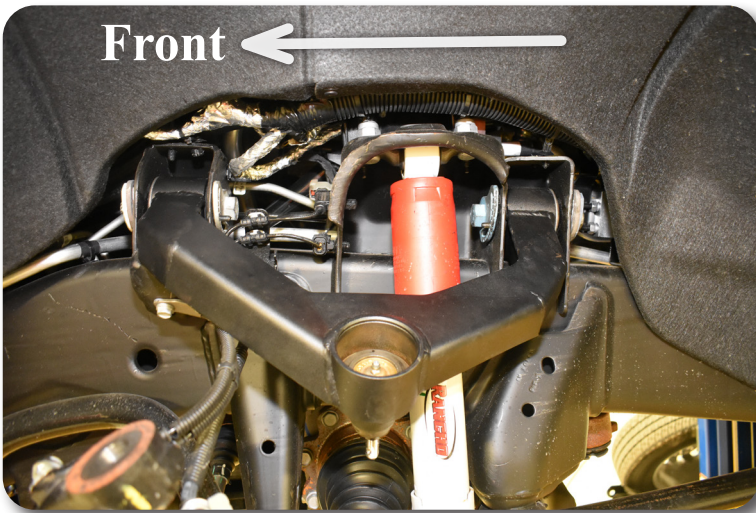

Figure 5 Driver Side Shown
12. Install new upper control arm assembly with factory cam bolts. Arms are side specific. Snug, but do not tighten at this time. Attach the upper ball joint to the steering knuckle with provided nut, washer, and cotter pin. Tighten the upper ball joint nut to 37 ft-lbs on the first pass and a final pass of 90-110 degrees. Install the cotter pin (do not loosen the nut to line up the cotter pin hole). Figure 5
The new upper control arms will have additional clearance to the droop limiter on the front control arm pocket. Verify the correct UCA is installed on the correct side by the raised area around the droop limiter. See Figure 5